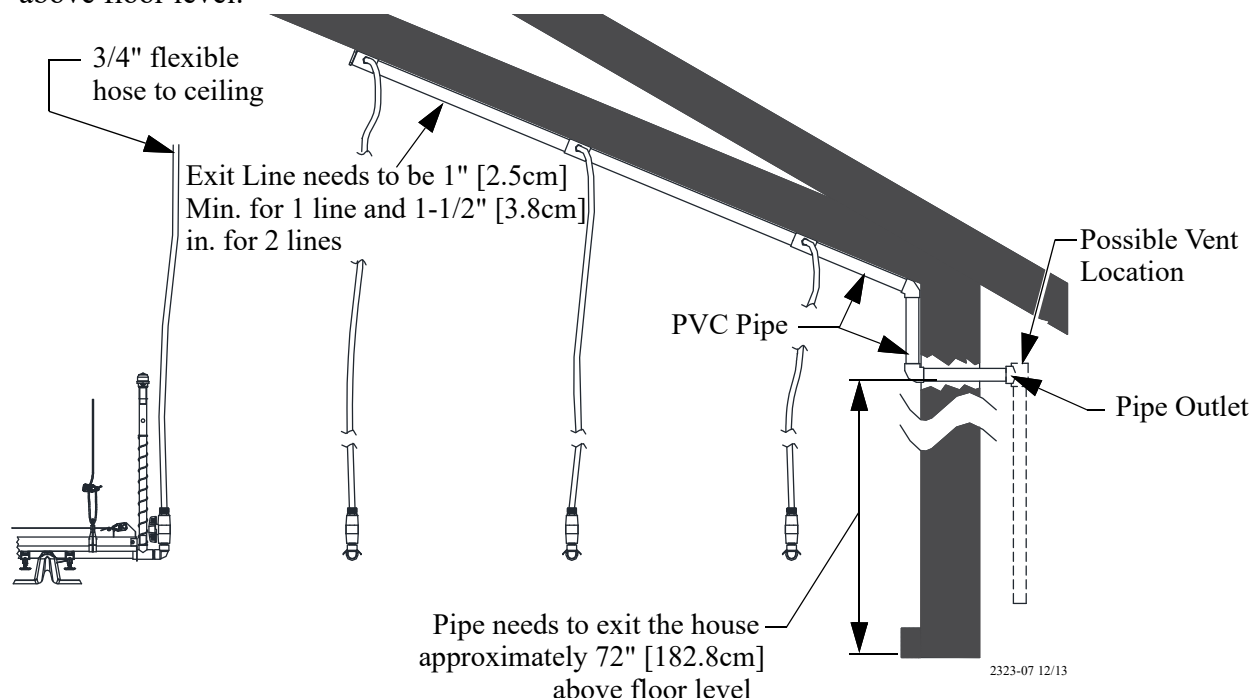

**Figure 37.Incoming Water System**
1. Install the Water shut-offs in the ceiling. Do not install the shut-offs at the Regulator. Installing the Shut-offs at the regulator adds to much weight at the regulator location. **See Figure 37** below.